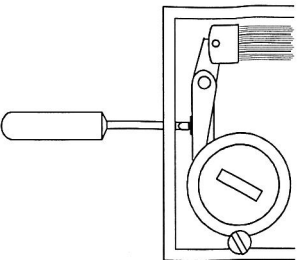

Figure 1
3. Twist the setpoint knob until you find the switching point. If the switching point value is higher than the measured actual value, the calibration screw should be screwed clockwise. If the switching value is lower than the measured value, the screw should be screwed counter-clockwise. The calibration screw is reached through the slots at the lower end of the humidistat using a narrow screwdriver. See fig 1. Adjust the calibration screw until the switch switches when the setpoint knob is set to the actual measured humidity.